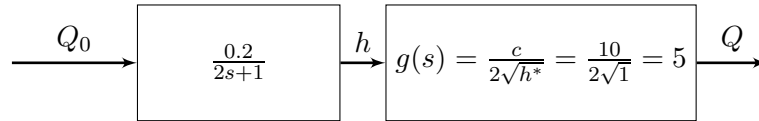

Figure 2: Block Diagram Tank System
- (f) (4 points) Fill in the corresponding transfer functions in the block diagram from Figure 2.
- (g) (2 points) Does the block diagram from Figure 2 correspond to an open loop or a closed loop system?